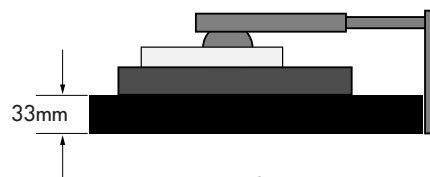

Figure S.1
3. Place monitor face down on a nonabrasive surface. (Place the screen on a 33 mm platform so that the stand is parallel with the surface.) (**Figure S.1**)